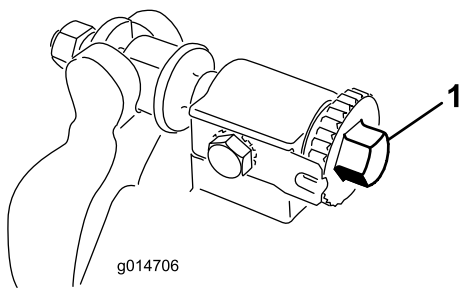
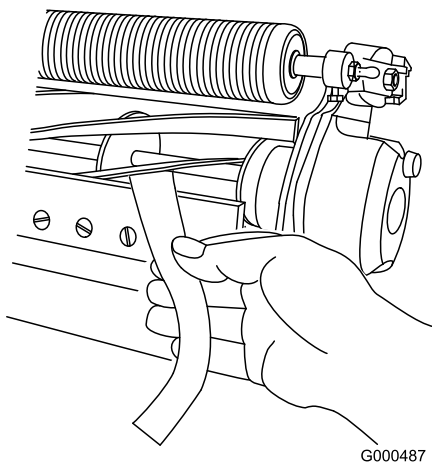

Figure 6
Figure 7
2. Make sure reel contact is removed by turning bedbar adjusting screws counterclockwise (Figure 6).
4. At one end of reel, insert a long strip of newspaper between reel and bedknife (Figure 7). While slowly rotating reel forward, turn bedbar adjusting screw clockwise (on same end of reel) (Figure 6), one click at a time, until paper is pinched lightly, when inserted from the front, parallel to the bedknife. A slight drag will be noted as the paper is pulled.
to the bedknife (Figure 7). It should be possible to cut paper with minimum contact between the bedknife and the reel blades. Should excessive reel drag be evident it will be either necessary to backlap or regrind the cutting unit to achieve the sharp edges needed for precision cutting (see Toro reel sharpening manual).